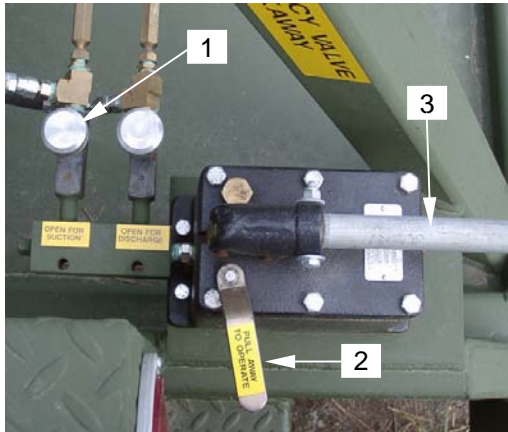

Figure 21. Hydraulic Valve Controls
14. Open intake valve (SUCTION) hydraulic control knob (**figure 21, item 1**).
15. Place hydraulic pump selector lever (**figure 21, item 2**) so it is pointing away from pump handle.
16. Operate hydraulic pump handle (**figure 21, item 3**) to open intake valve fully.